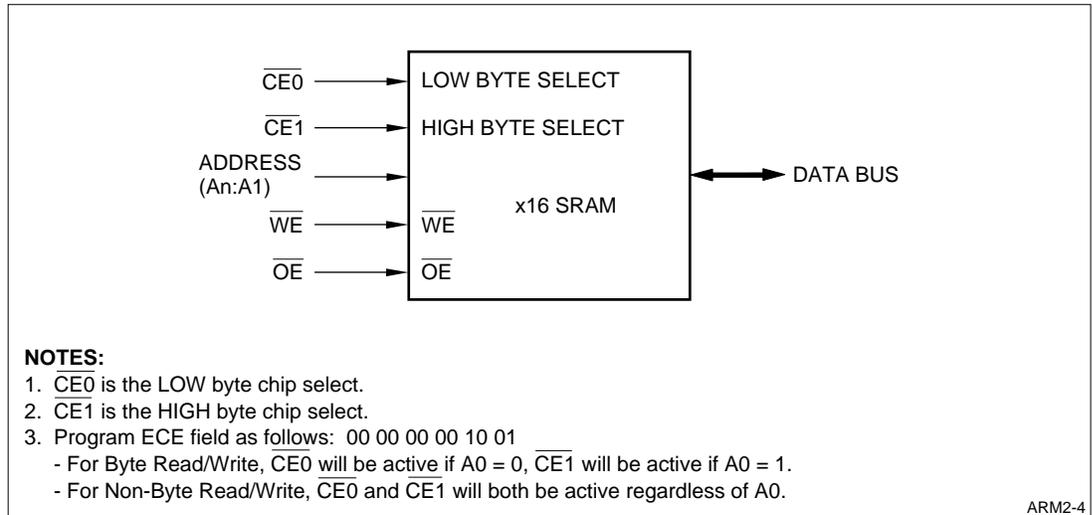

Figure 5-3. ECE Example
These 12 bits control the six external $\overline{CE}/\overline{CAS}$ pins. For SRAM, these pins will be used as \overline{CE} pins. Each pin is controlled by 2 bits from ECE field to support byte enables on x16 SRAMs as shown in Figure 5-3. Each \overline{CE} pin can be enabled for low byte, high byte, or both depending on address bit0 (A0), external memory bus size (MS) and access type (Byte, Half-Word, or Word Loads and Stores) as shown in Table 5-11.